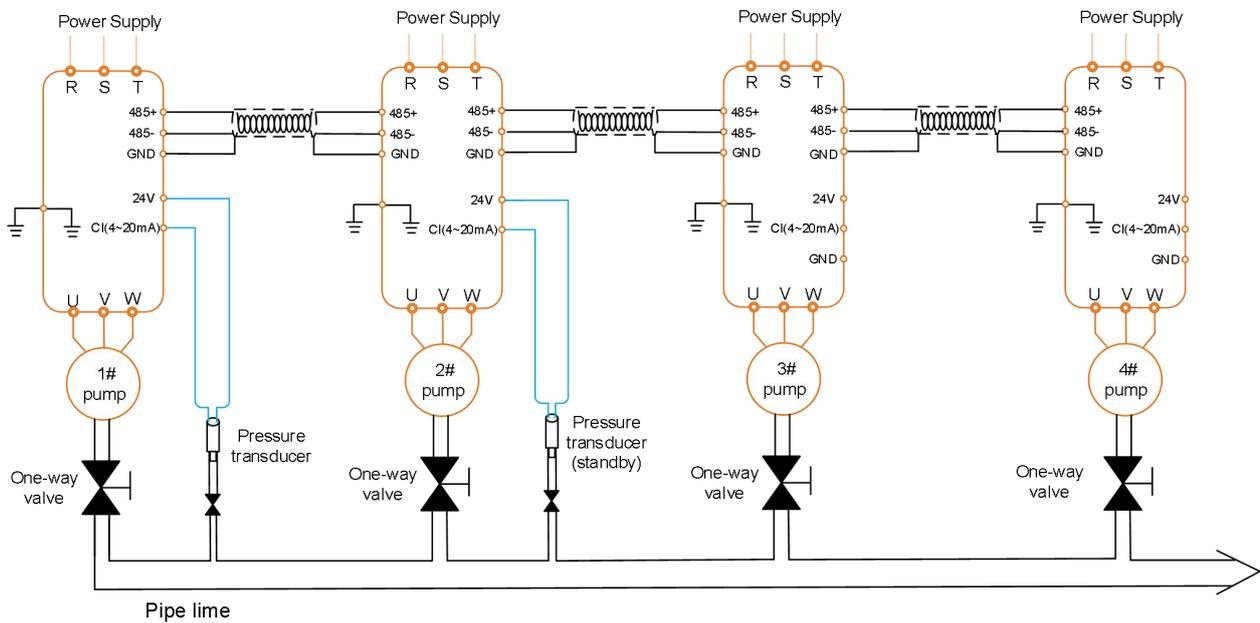
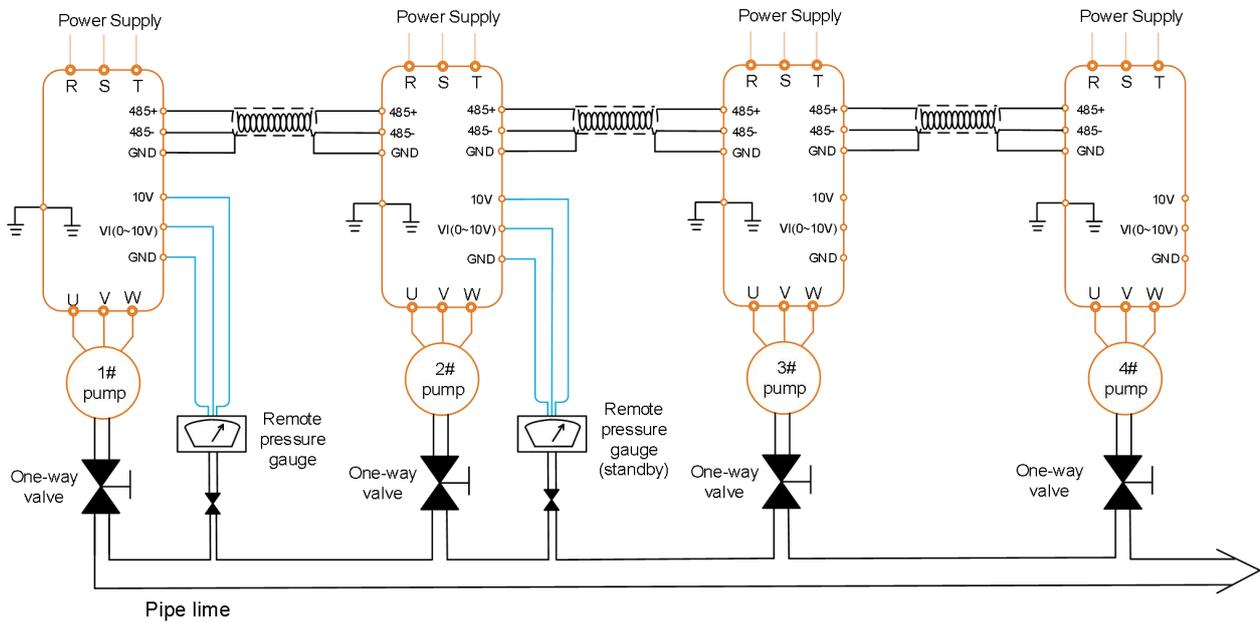

Fig 8.7 Connect with remote pressure transducer
Fig 8.8 Connect with remote pressure gauge
- ① Main circuit, please connect the power supply to R, S, T (Single phase please connect R, T), and output side please connect U, V, W with pump.
- ② Connect the pressure transducer or remote pressure gauge to the inverter correctly, please refer to Fig 8.7 and Fig 8.8 for details.
- ③ Connect the communication cables, please select shielded twisted-pair cable to connect the 485+ and 485- of the four inverters together.
- ① Set F0-00=0 (Manual operation mode) firstly, start the inverter and check whether the running direction of pump is correct. If the running direction is incorrect, change the value of F0-02 or change any two motor cables connection.
- ② Under manual operation mode, discharge the air inside the pump and pipe line.
- ① Set correct value in F0-04.
- ② Under manual operation mode, start the inverter and check whether the feedback pressure and real time display pressure on the inverter are the same. Long time press [▲] or [▼] to increase or decrease pump speed to check whether the feedback pressure is changed accordingly, if the feedback changes, it means the pressures transducer's wiring connection is correct (watch 1# pump).
- ① While start the inverter at the first time or forget some parameters, please set F0-28=1 to initialize the factory default value.
- ② Set parameters one by one based on the above mentioned parameters list, F1-01 ~ F1-04 parameters are only needed to set in master inverter, but for two master system, it needs to set the parameters both in 1# inverter and 2 # inverter..